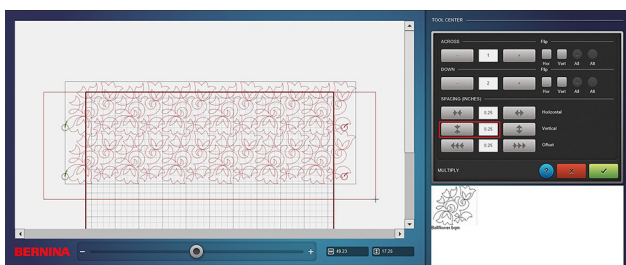

Fig. 49
9. Click the arrows that point together twice to decrease the vertical spacing between design rows under SPACING (Fig. 49).